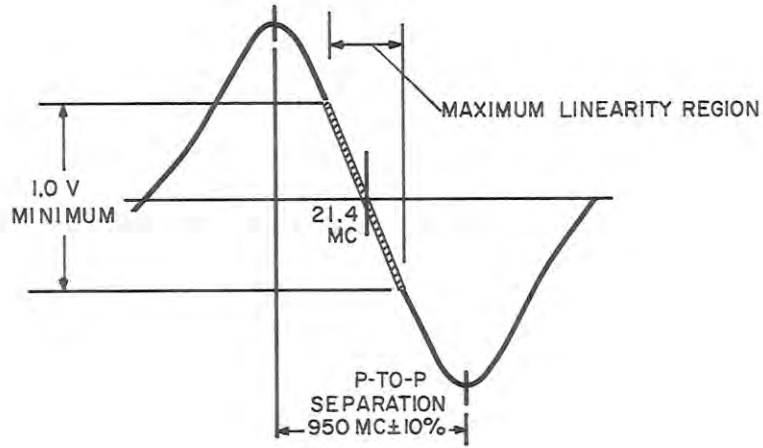

Figure 5-15. IF Amplifier, IF-212-500 FM Discriminator Response Waveform.
- d. Adjust L6 and L8 for maximum linearity of the "S" curve response for the bandwidth indicated in Figure 5-15.